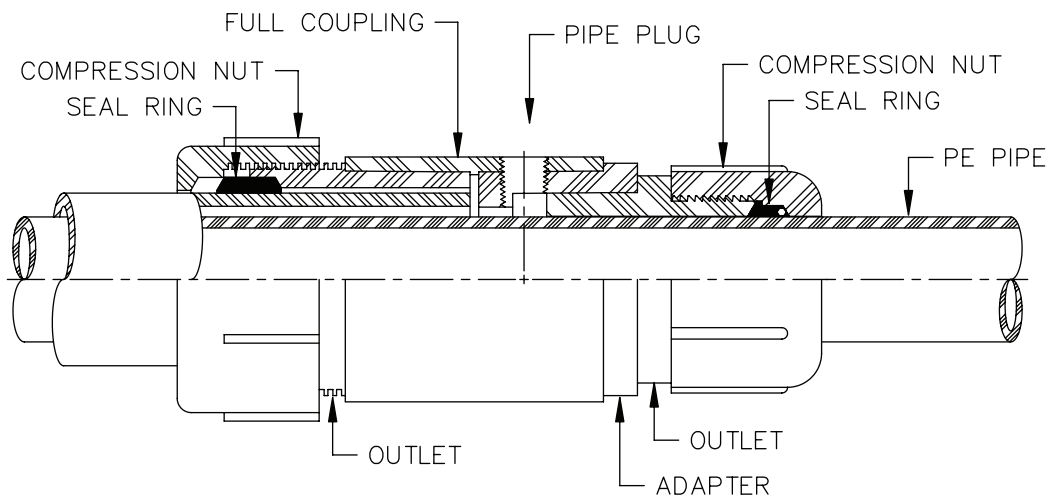

Figure 4
3. Tighten compression nut until it shoulders against the outlet. **DO NOT OVER TIGHTEN.** (Figure 4)